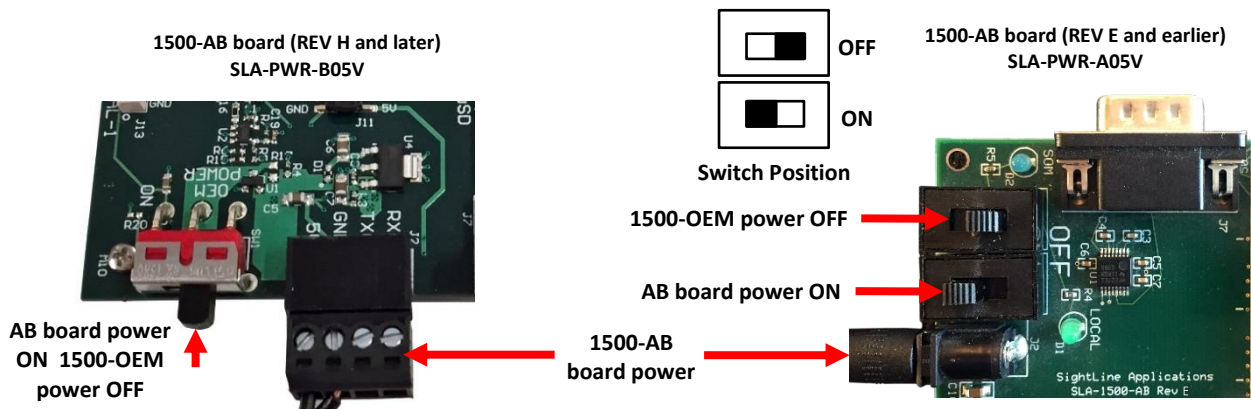
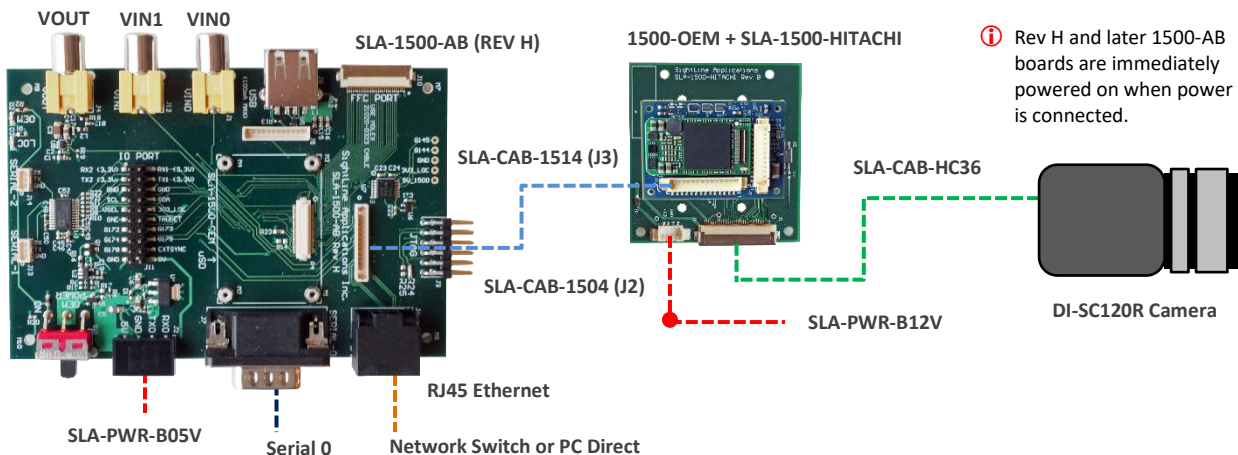

Figure 2: 1500-AB Board Power Connections
Figure 3: 1500-OEM DI-SC120R Camera Bench Setup
REV H and later 1500-AB boards have a single power switch. REV E and earlier boards have a dual power switch. REV H and later boards are immediately powered on when power is connected. If using the 1500-AB board in a bench setup, review Figure 2 and Figure 3 prior to making power connections.
- ⚠ **CAUTION:** Power to the 1500-OEM board is provided through the 1500-HITACHI interface board using the SLA-PWR-B12V power supply shown in Figure 3. Powering the OEM through the J3 power pins and through the 1500-HITACHI board can damage the OEM.
- ⚠ **CAUTION:** DO NOT power up the 1500-OEM board from the 1500-AB interface board. The power switches should be set to the positions shown in Figure 2 (AB board power ON / 1500-OEM power OFF). Long term overpowering will permanently damage the 1500-OEM board.
**IMPORTANT:** Do not apply power to the 1500-OEM board from the 1500-AB board (see Figure 2).